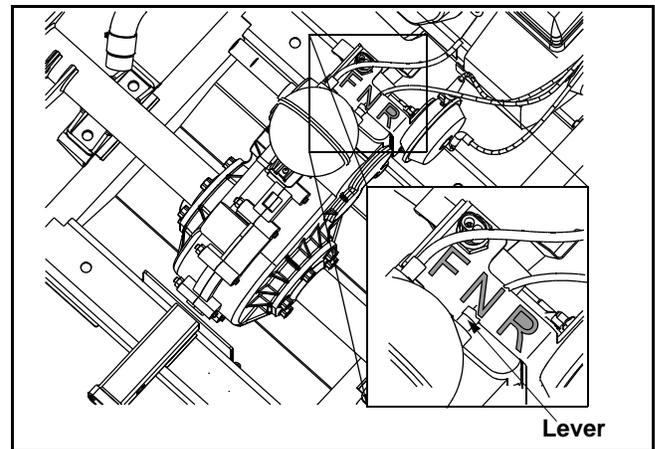

Figure 12
- Engage the parking brake, raise and secure cargo box, and move lever to the forward position. See Figure 12.